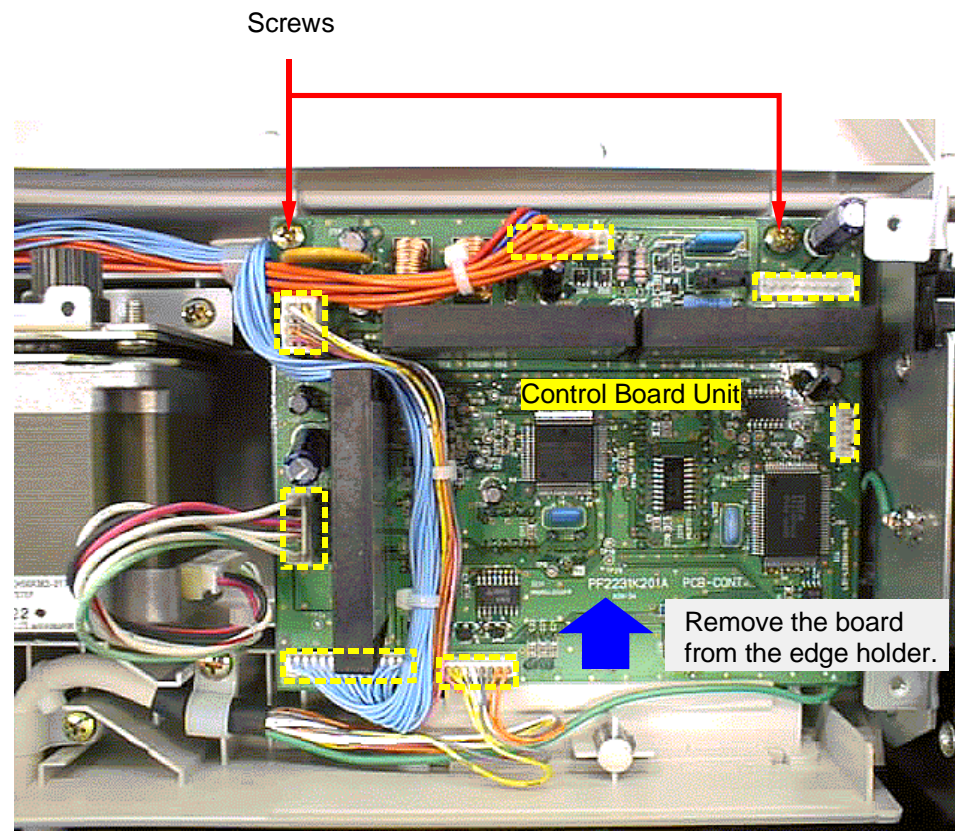

Figure 4-5. Control Board Unit Removal
2. Disconnect all connector cables from the connectors on the control board. (See Figure 4-5 for connector location indicated with the yellow broken lines.)